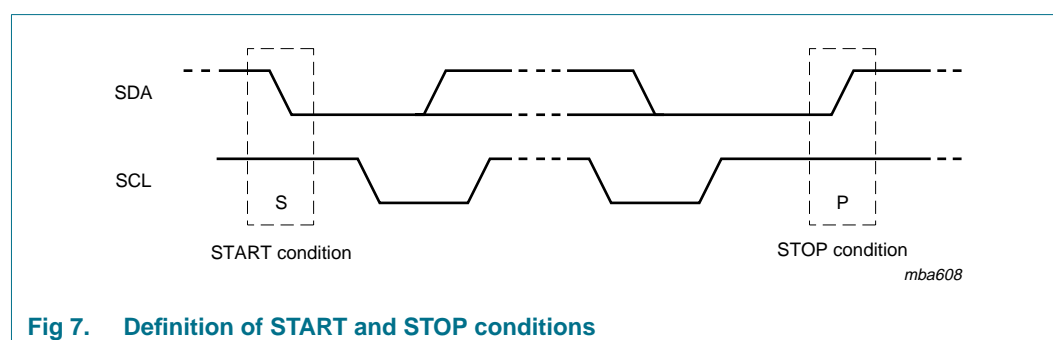

Fig 7. Definition of START and STOP conditions
Both data and clock lines remain HIGH when the bus is not busy. A HIGH-to-LOW transition of the data line while the clock is HIGH is defined as the START condition (S). A LOW-to-HIGH transition of the data line while the clock is HIGH is defined as the STOP condition (P) (see Figure 7).